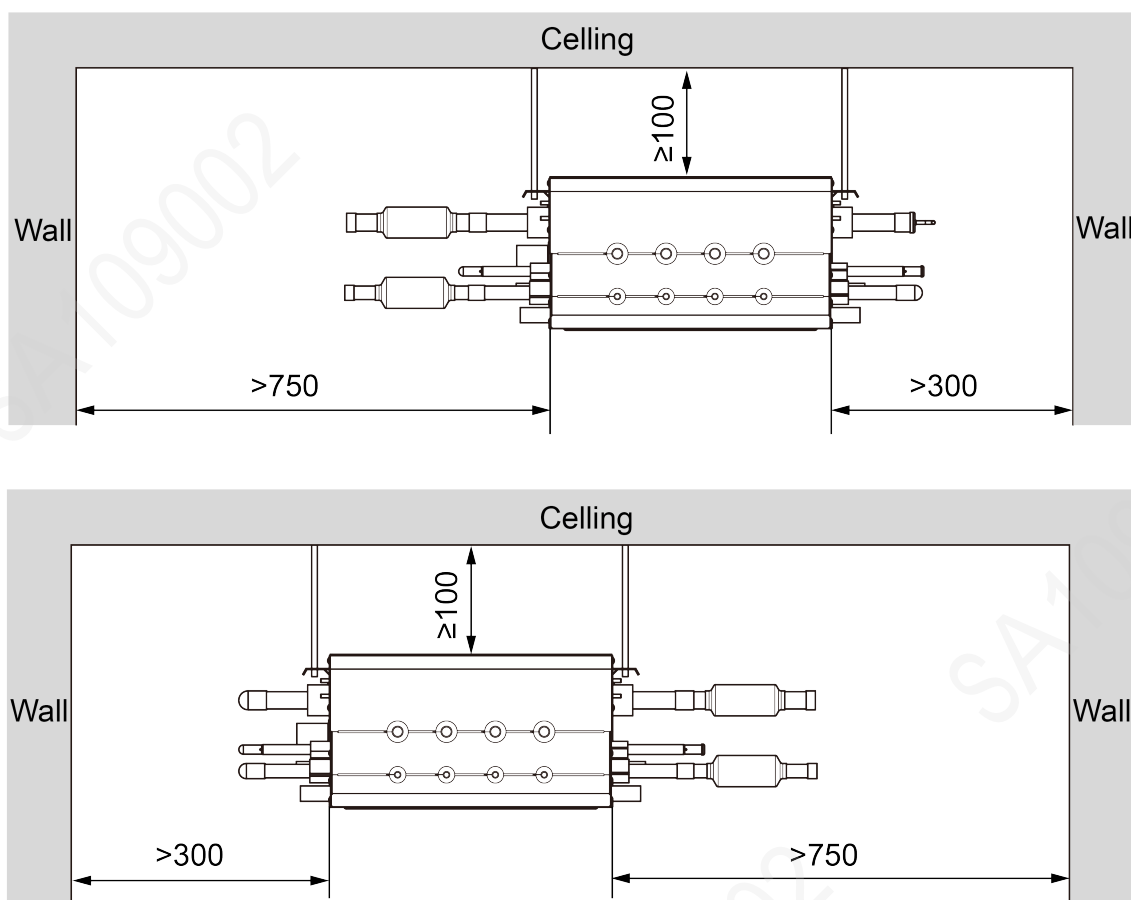

Fig.3.2.1
- (1) As there's noise during operation, the unit should be installed at the places where the noise won't affect your daily life, such as equipment room or corridor. Do not install the unit at the work or rest room or other places where the noise will affect your work or rest, such as bedroom, meeting room, ward, etc.
- (2) Avoid places where rainwater, damp air or the corrosive gas may enter, otherwise it may cause unit damage or electric shock.
- (3) Make sure the hanging parts can hold the weight of unit.
- (4) Water can be drained out from the drainage hose conveniently.
- (5) Connect either left or right side of converter to outdoor unit for piping according to installation space, as shown in the Fig.3.2.1, the space used for maintenance should be ensured.
- (6) Please keep the unit away from those positions where there's thermal source, inflammable gas and smog.
- (7) The unit is the cassette type (concealed type).
- (8) Indoor unit, outdoor unit, mode exchange box power cord and connection cord should be kept 1m above away from TV and radio for preventing graphic interference and noise. (Even the distance is 1m, if there's strong electric wave, there's still noise).